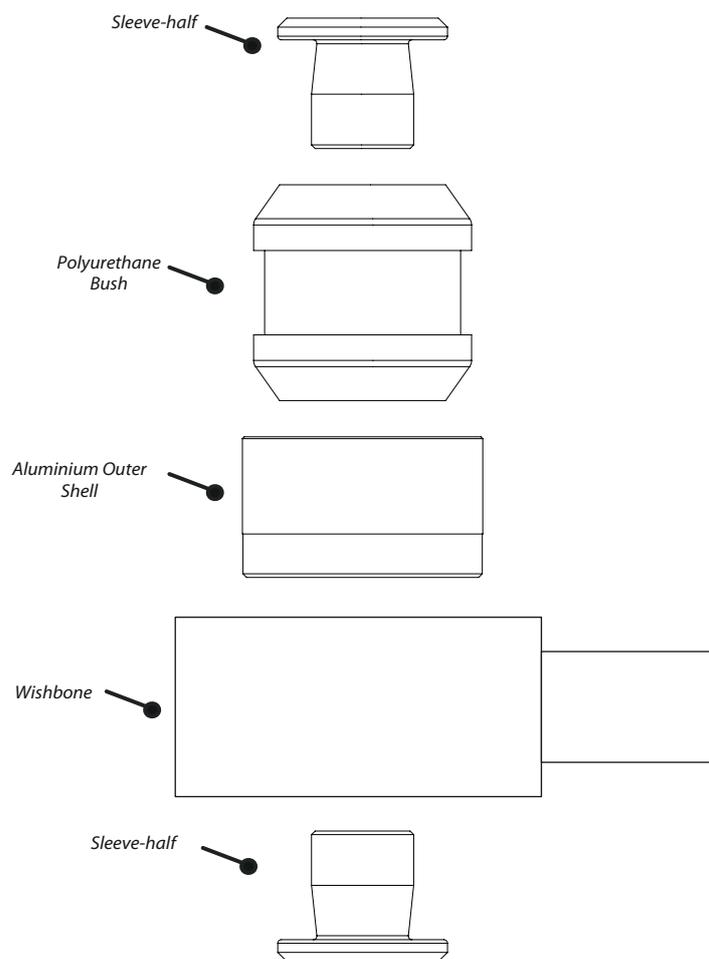

Figure 1
4. Press the black anodised outer shells bushes into place in the wishbone bores from the top of the arm, until the top of the shell sits flush with the top of the arm. (Figure 1)
5. Push the Polyurethane bushes into place in the shells (Figure 1). The use of washing-up liquid as a lubricant is recommended.